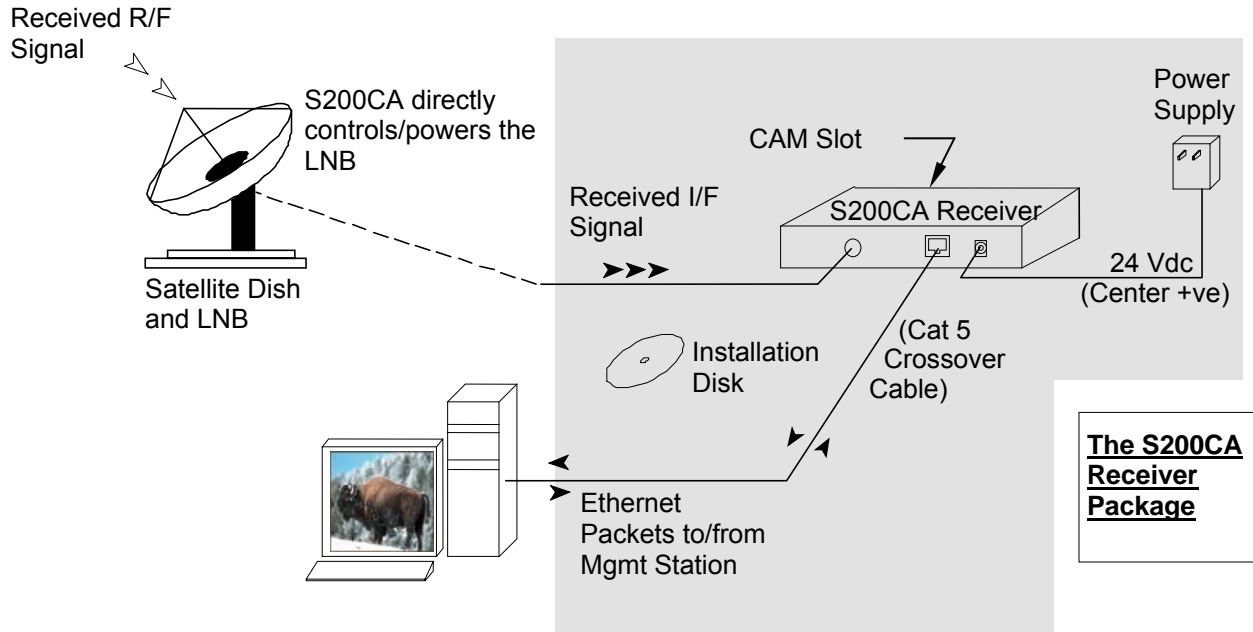

Figure 1: Typical Configuration
Please refer to Figure 1 below for a better understanding of the S200 operation. The desired DVB-S2 satellite signal is received using an appropriately sized satellite dish (not covered in this manual). A Low Noise Block (LNB) downconverter (not covered in this manual) is used to translate the incoming Radio Frequency (RF) signal to an Intermediate Frequency (IF) signal. The S200 receives this I/F signal and extracts the IP or MEG content, which is then passed onto the S200 LAN for distribution or viewing via computers connected to the LAN. The received data type may be IP data or may be MPEG video data, depending on the S200 model being employed.